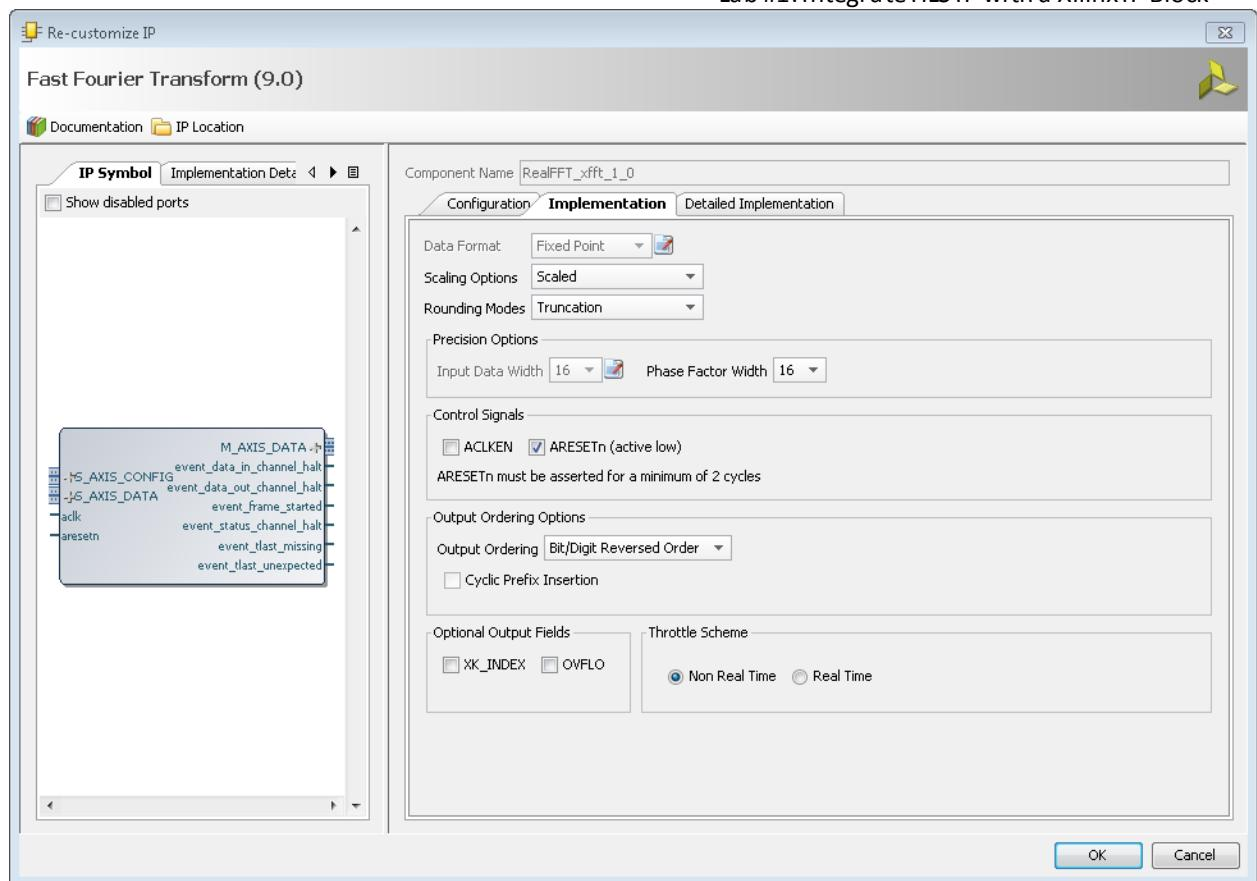

Figure 200 Xilinx FFT Implementation
5. Select the Implementation tab (Figure 200):